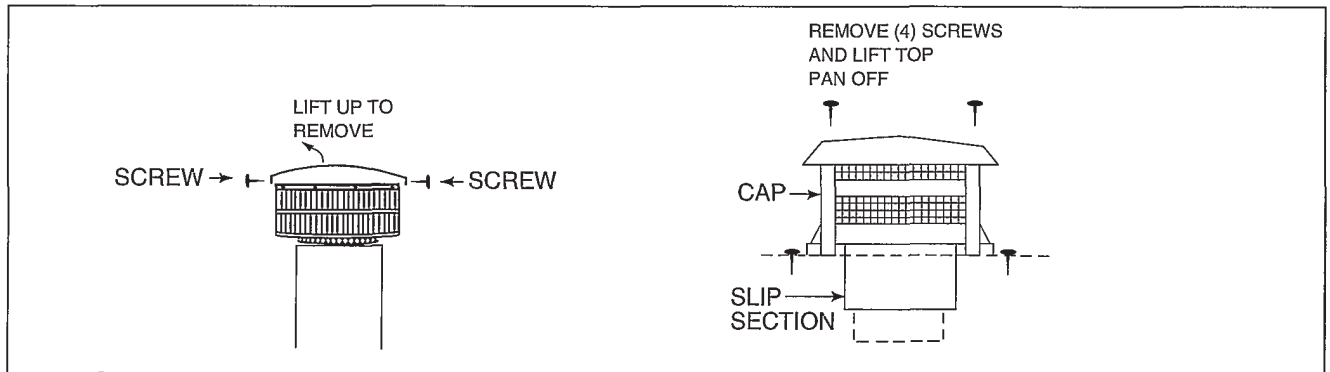

Figure 27
- 3 Remove the Terminal Cap or Housing Top. See Figure 27